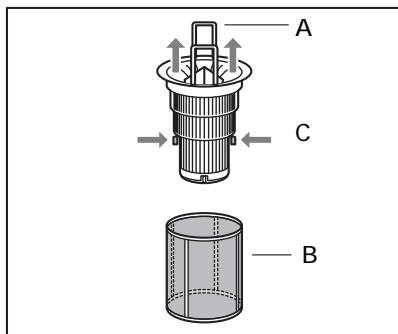

fig. 10
- Take out the lower spray arm by pulling it vertically upwards (see fig. 10). Rinse the spray arms clean under the tap.
Microfilter (see fig. 10)